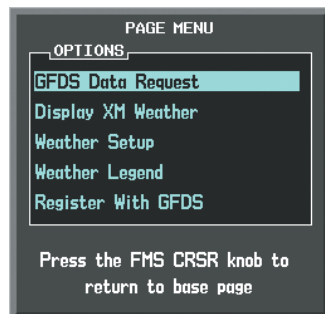

Figure 6-56 GFDS Weather Data Link Page Menu
- 3) With 'GFDS Data Request' highlighted, press the **ENT** Key (Figure 6-56).